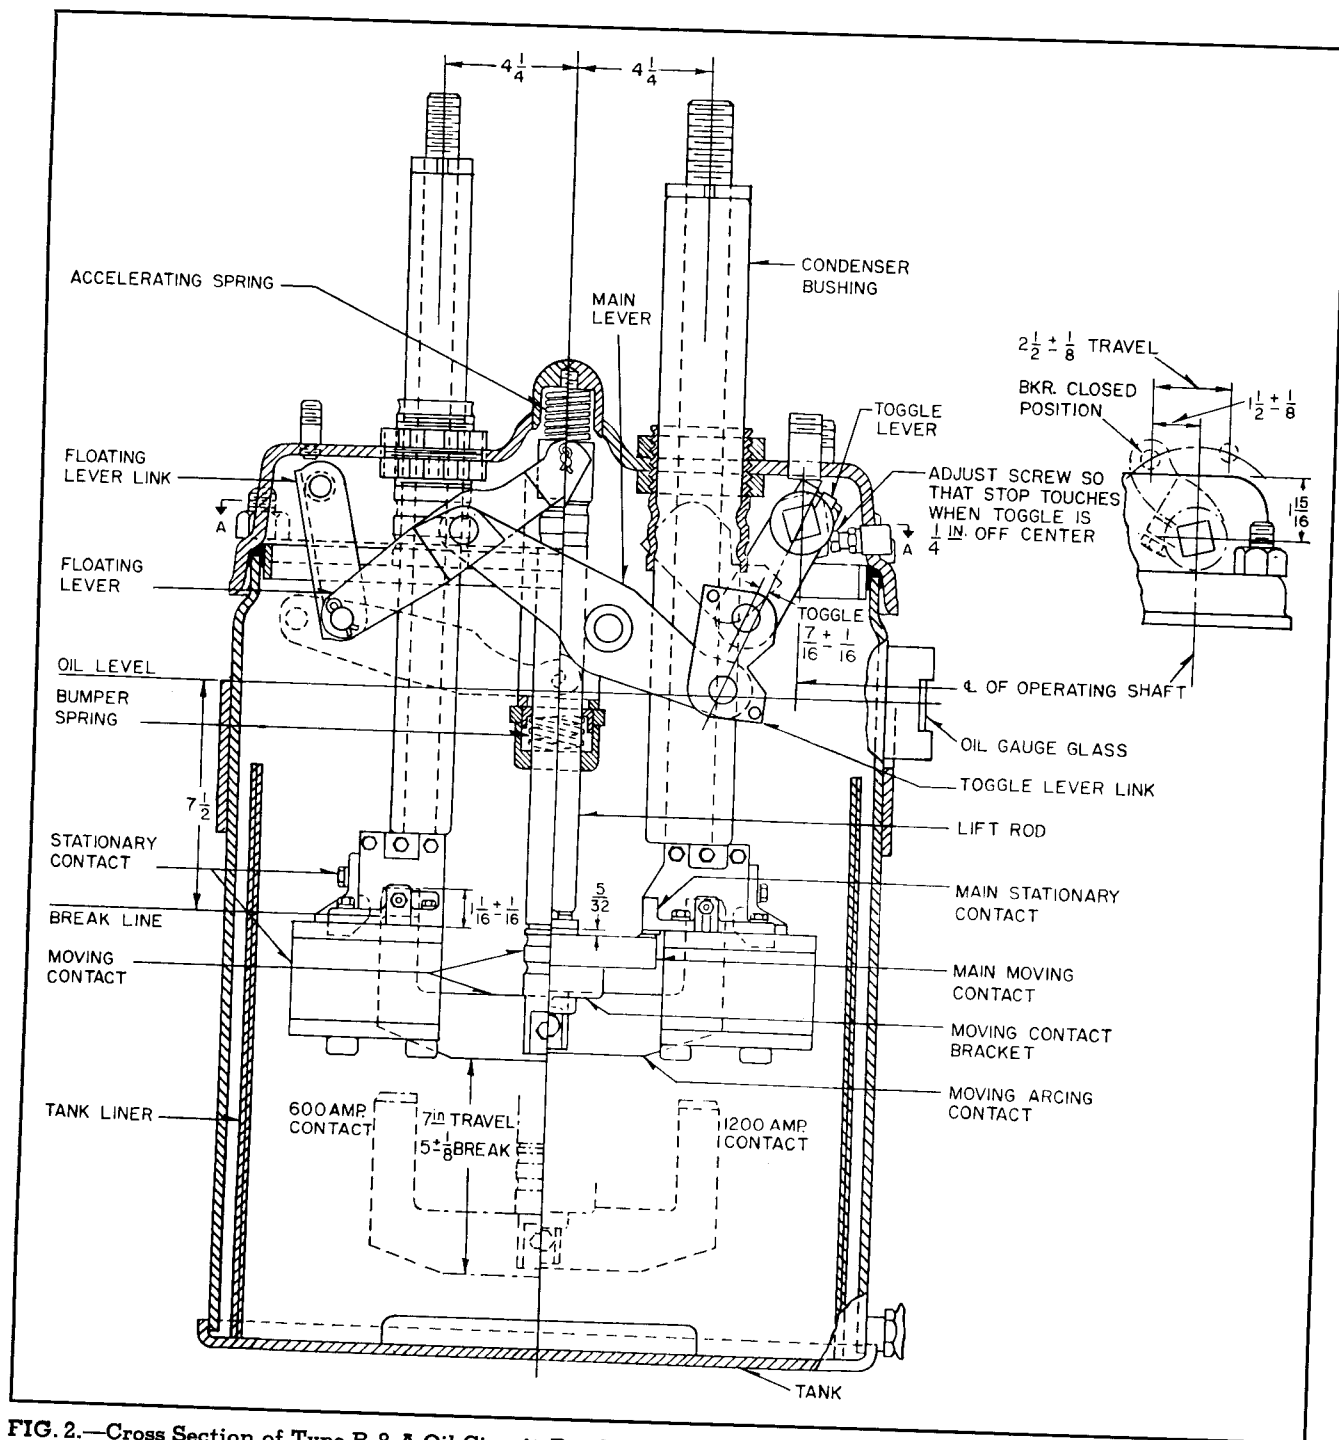

FIG. 2.—Cross Section of Type B-8-A Oil Circuit-Breakers Showing Various Arrangements of Toggle Levers and Links
Breaker Mechanism Fig. 2 or 7
When the breaker unit and its operating mechanism are shipped separately it is important that the operating rods between the two units be properly adjusted. The adjustments should be made to meet the toggle setting as given in Fig. 2 or 7.
7. Inspect the oil regularly and after severe short-circuits. If it shows signs of moisture, carbonization of dirt, filter and retest it before replacing it in service. See that the oil level in the tanks is maintained at the proper height. See Fig. 2.